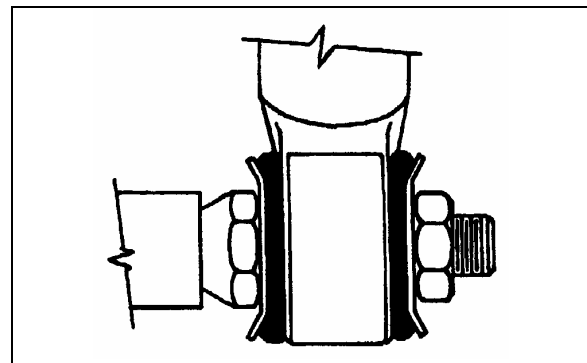

FIGURE 8: TYPICAL SHOCK ABSORBER SETUP
3. Place the inner washers (with washer convex side facing the shock absorber rubber bushing) on each shock absorber pin (Fig. 8).